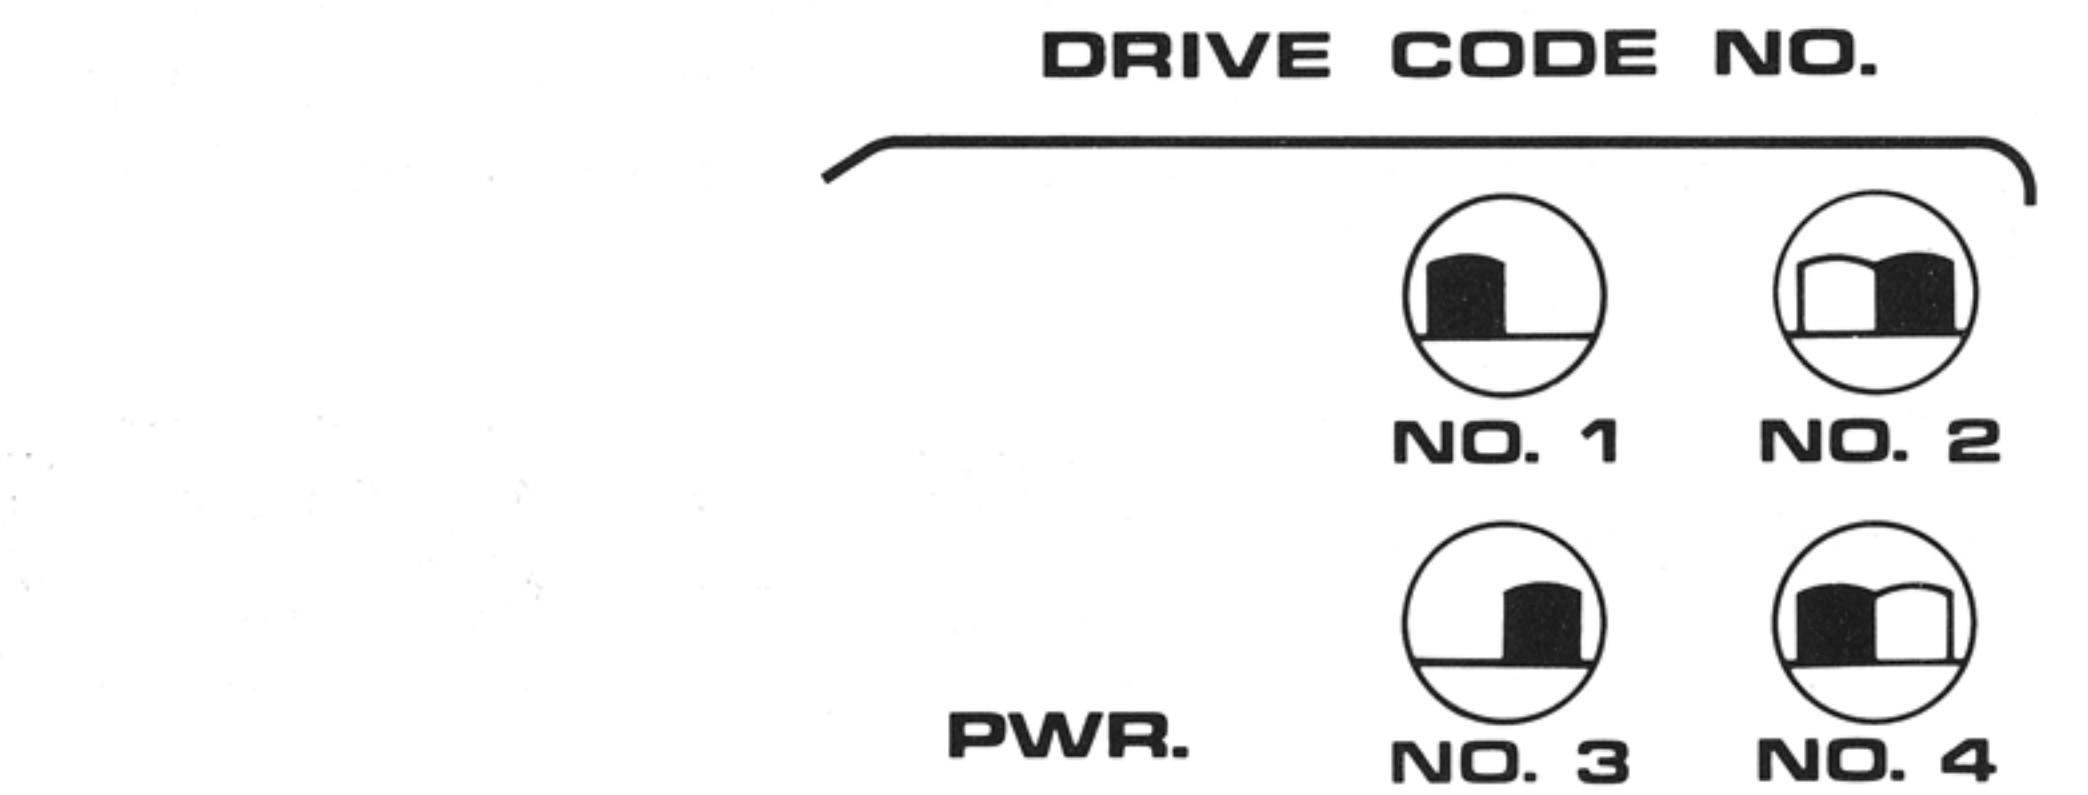

Figure 4. Drive Code Cutout Area for ATARI 810 Disk Drive
8. If you are using an ATARI 810 Disk Drive with the ATARI 815 Dual Disk Drive, set the Drive Code number to 3. (See the *ATARI 810 Operator's Manual* for instructions and Figure 4 for Drive Code cutout area positions). Use the peel-off DRIVE #3 label to identify the ATARI 810 Disk Drive.